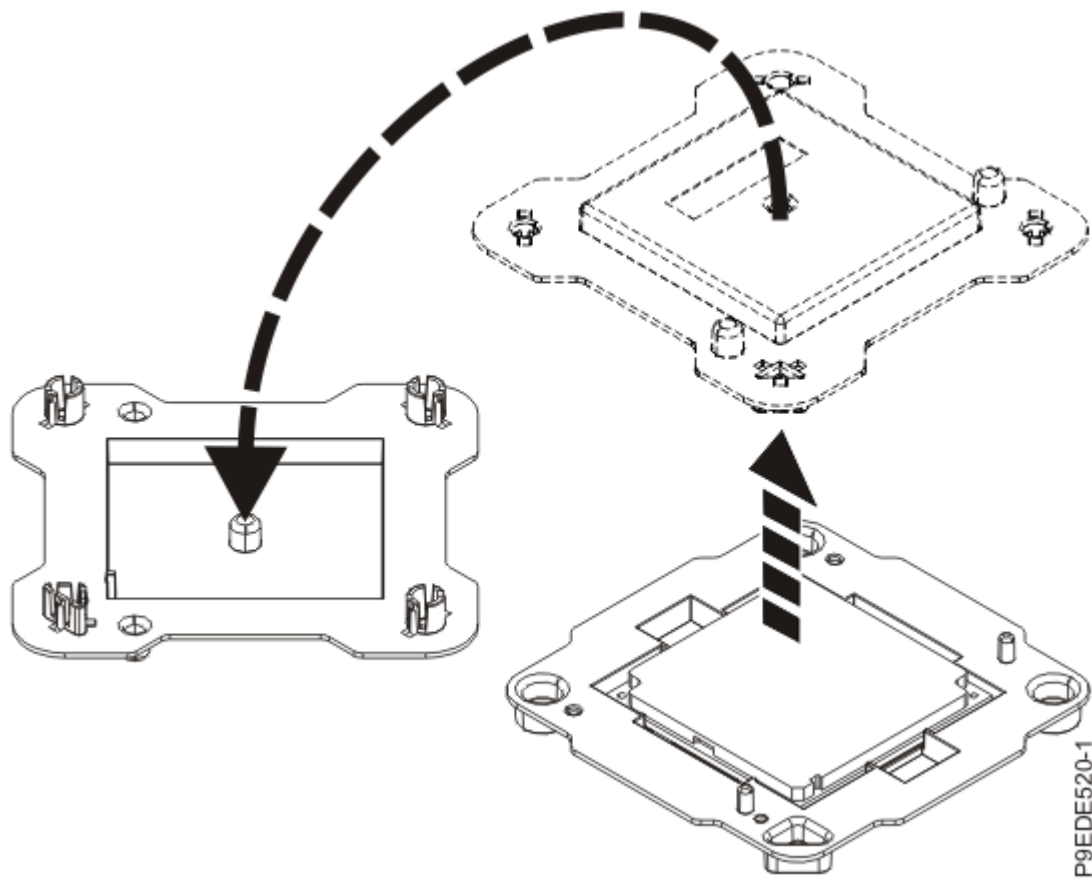

Figure 214: Opening the system processor module packaging
2. Open the packaging of the new system processor module, and place the cover upside down next to the tray, as shown in Figure 214 on page 261. The cover is used for the system processor module that you are replacing.